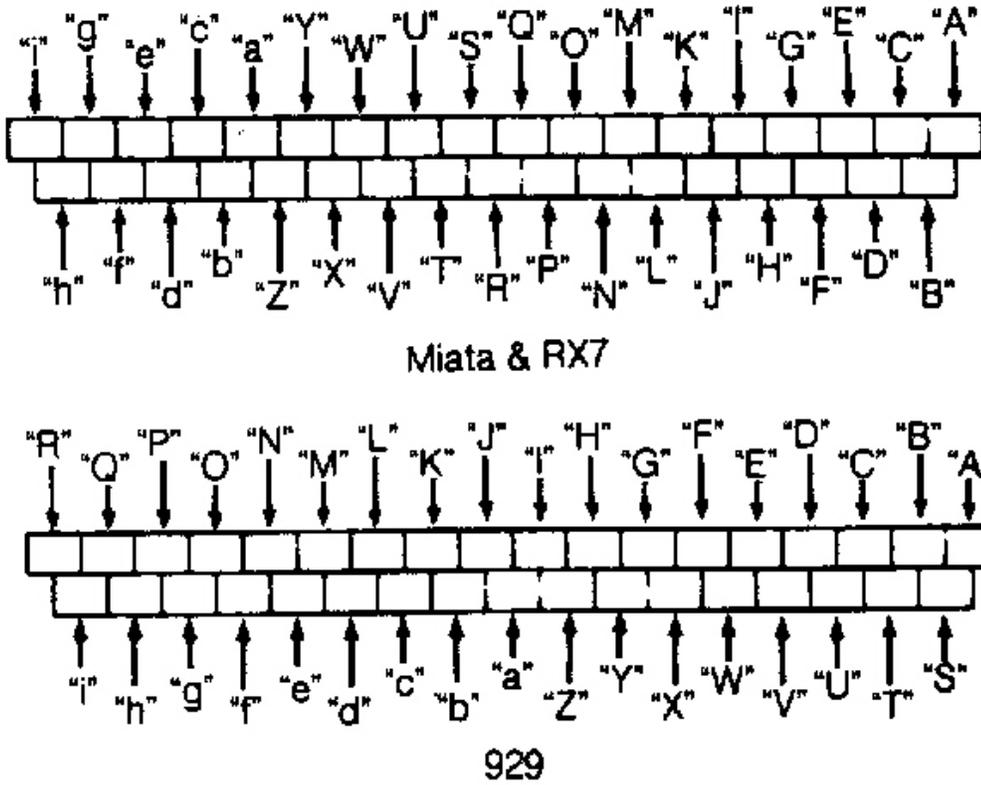
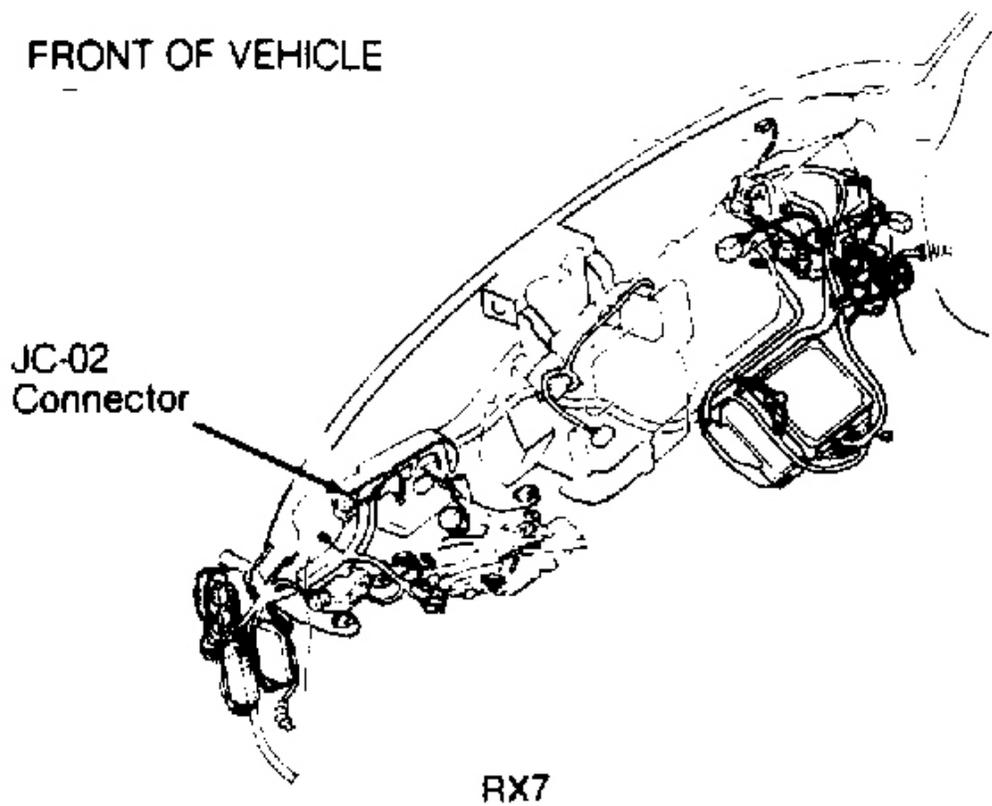
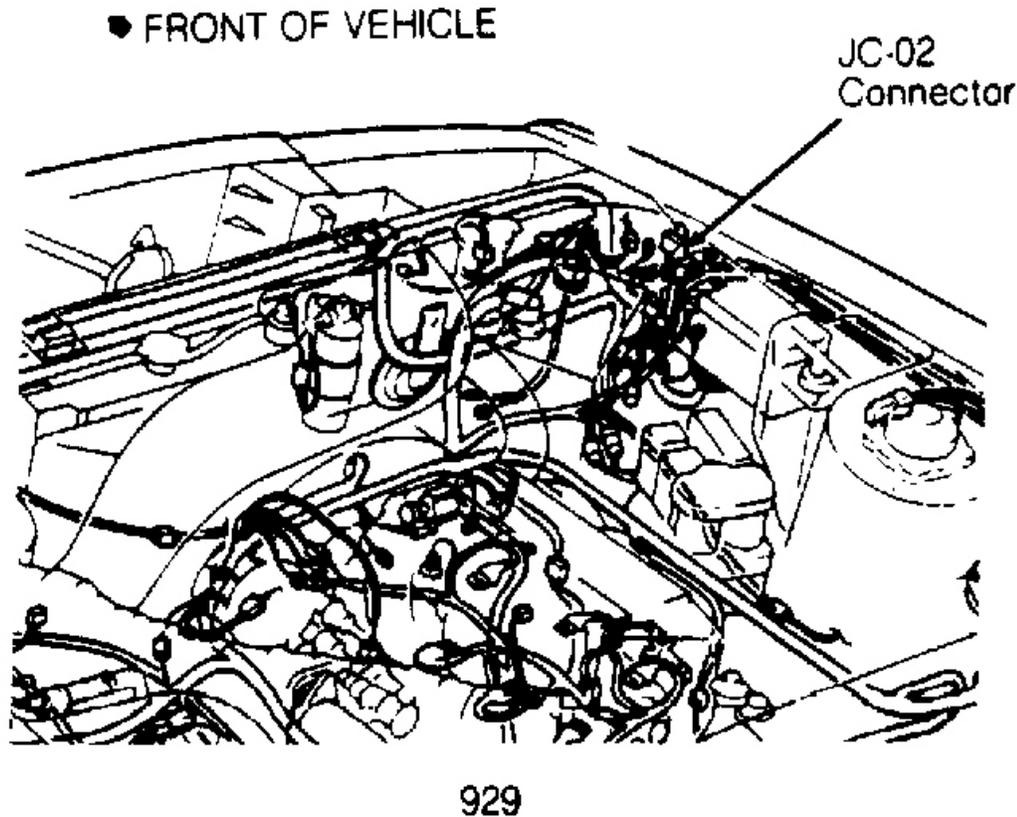

Fig. 5: Identifying Control Unit Harness Connector Terminals
Fig. 6: Locating JC-02 Connector
Fig. 7: Locating JC-02 Connector
Using a DVOM, check for continuity between terminals "D", "S", and "f" of control unit harness connector and ground. See **Fig. 4** or **Fig. 5**. If continuity is not present, repair harness.
Use DVOM to check continuity. ON RX7, check between control unit harness connector terminal "D" and JC-02 connector. See **Fig. 4** and **Fig. 6** or **Fig. 5** and **Fig. 7**. On 929, check between control unit harness connector terminal "T" and JC-02 connector. If continuity is not present, repair harness.
(1) See Fig. 4 or Fig. 5 to identify ABS control unit terminals.